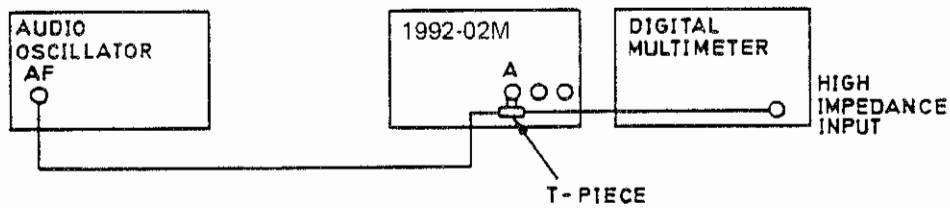

Figure 6.28 - Connections for Channel A Sensitivity PVP (II)
**6.9.2.3 Channel A PVP (II)**
- a. Connect the test equipment as shown in Figure 6.28